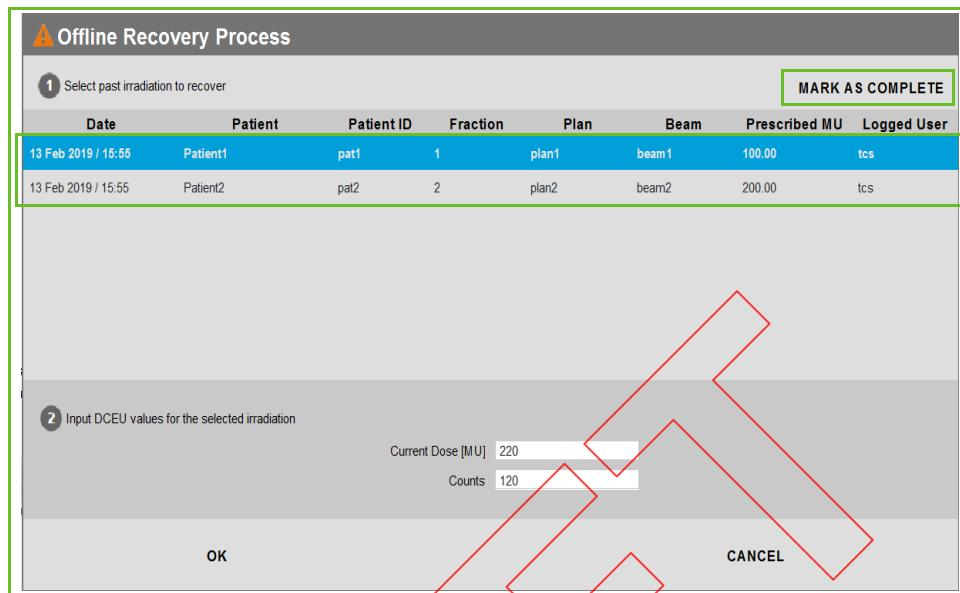

Figure 41-12. Recovery after termination by PTS - Automatic data recovery information (offline)
2. The popup **Offline Recovery Process** appears (Figure 41-12), showing the list of unrecovered partial irradiations in the adaPTdeliver database.